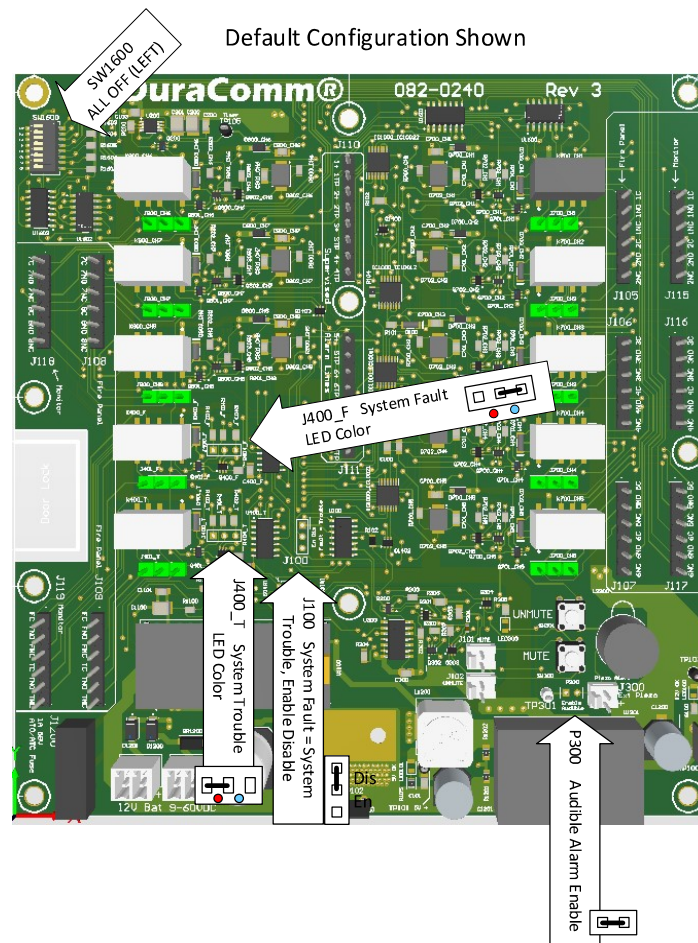

Figure 2: Factory Hardware Configuration
2. Verify Standard Configuration of annunciator for fire alarms. See Figure 2
- b. NOTE: If a Jumper is placed on J100 to enable FAULT=TROUBLE (pins 2 & 3), ANY BLUE LED WILL ALSO CAUSE A RED SYSTEM TROUBLE LED. See Figure 2.